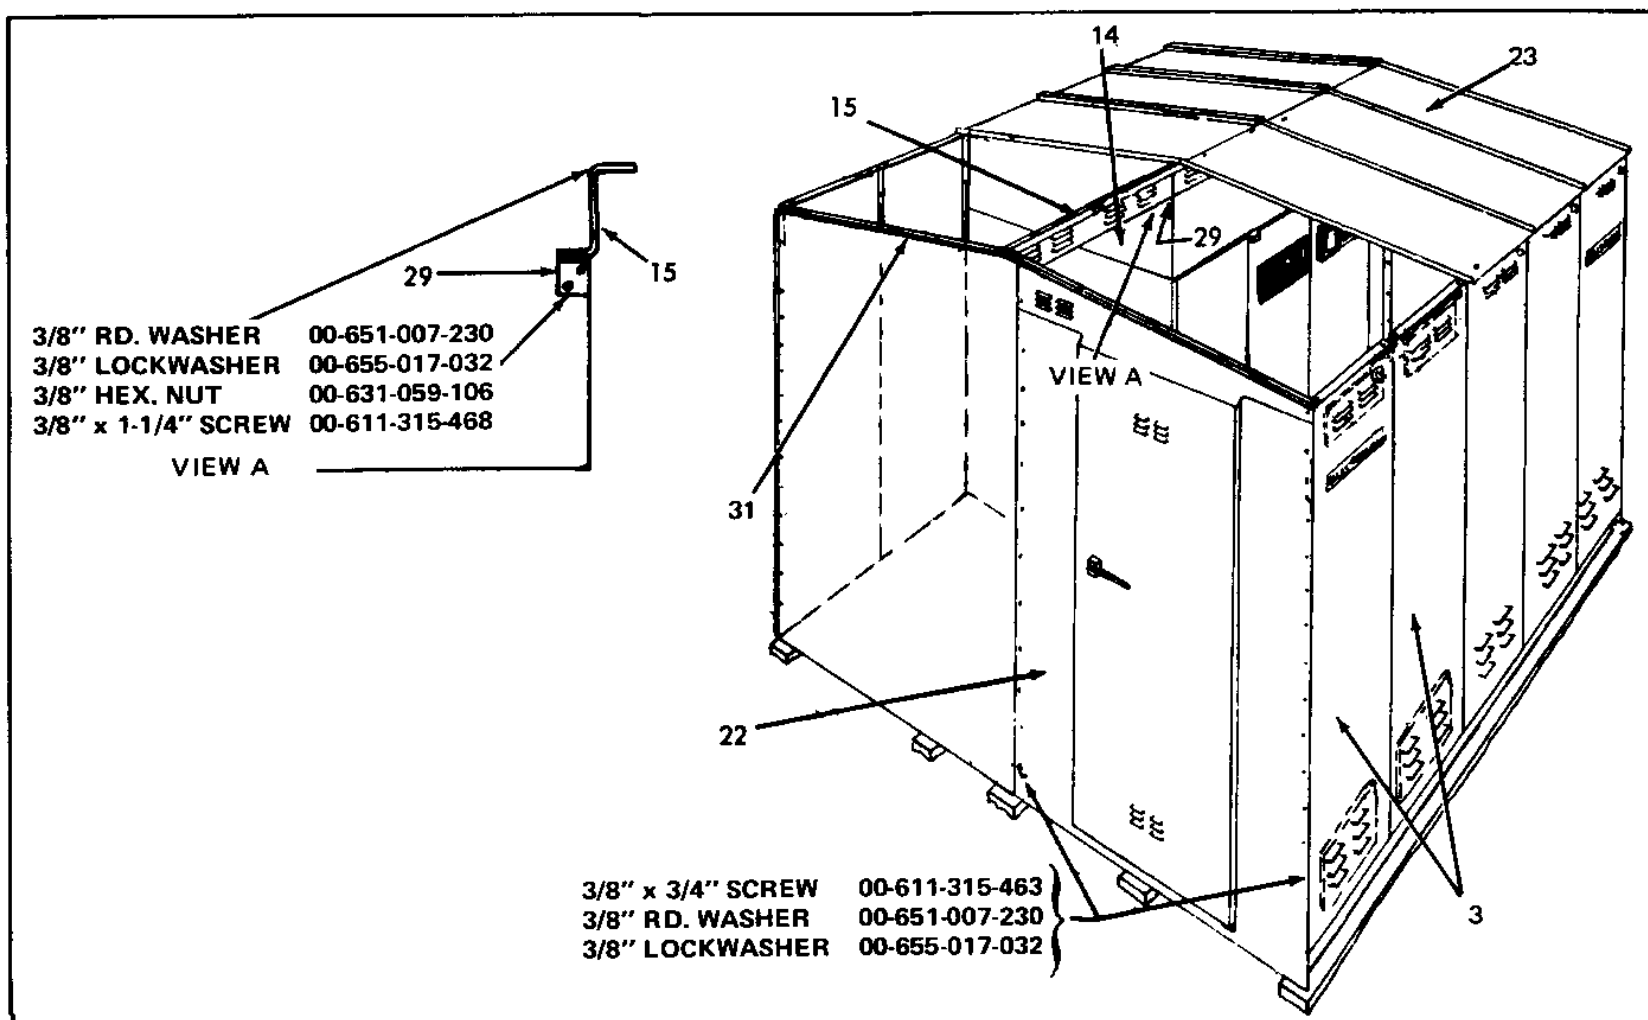
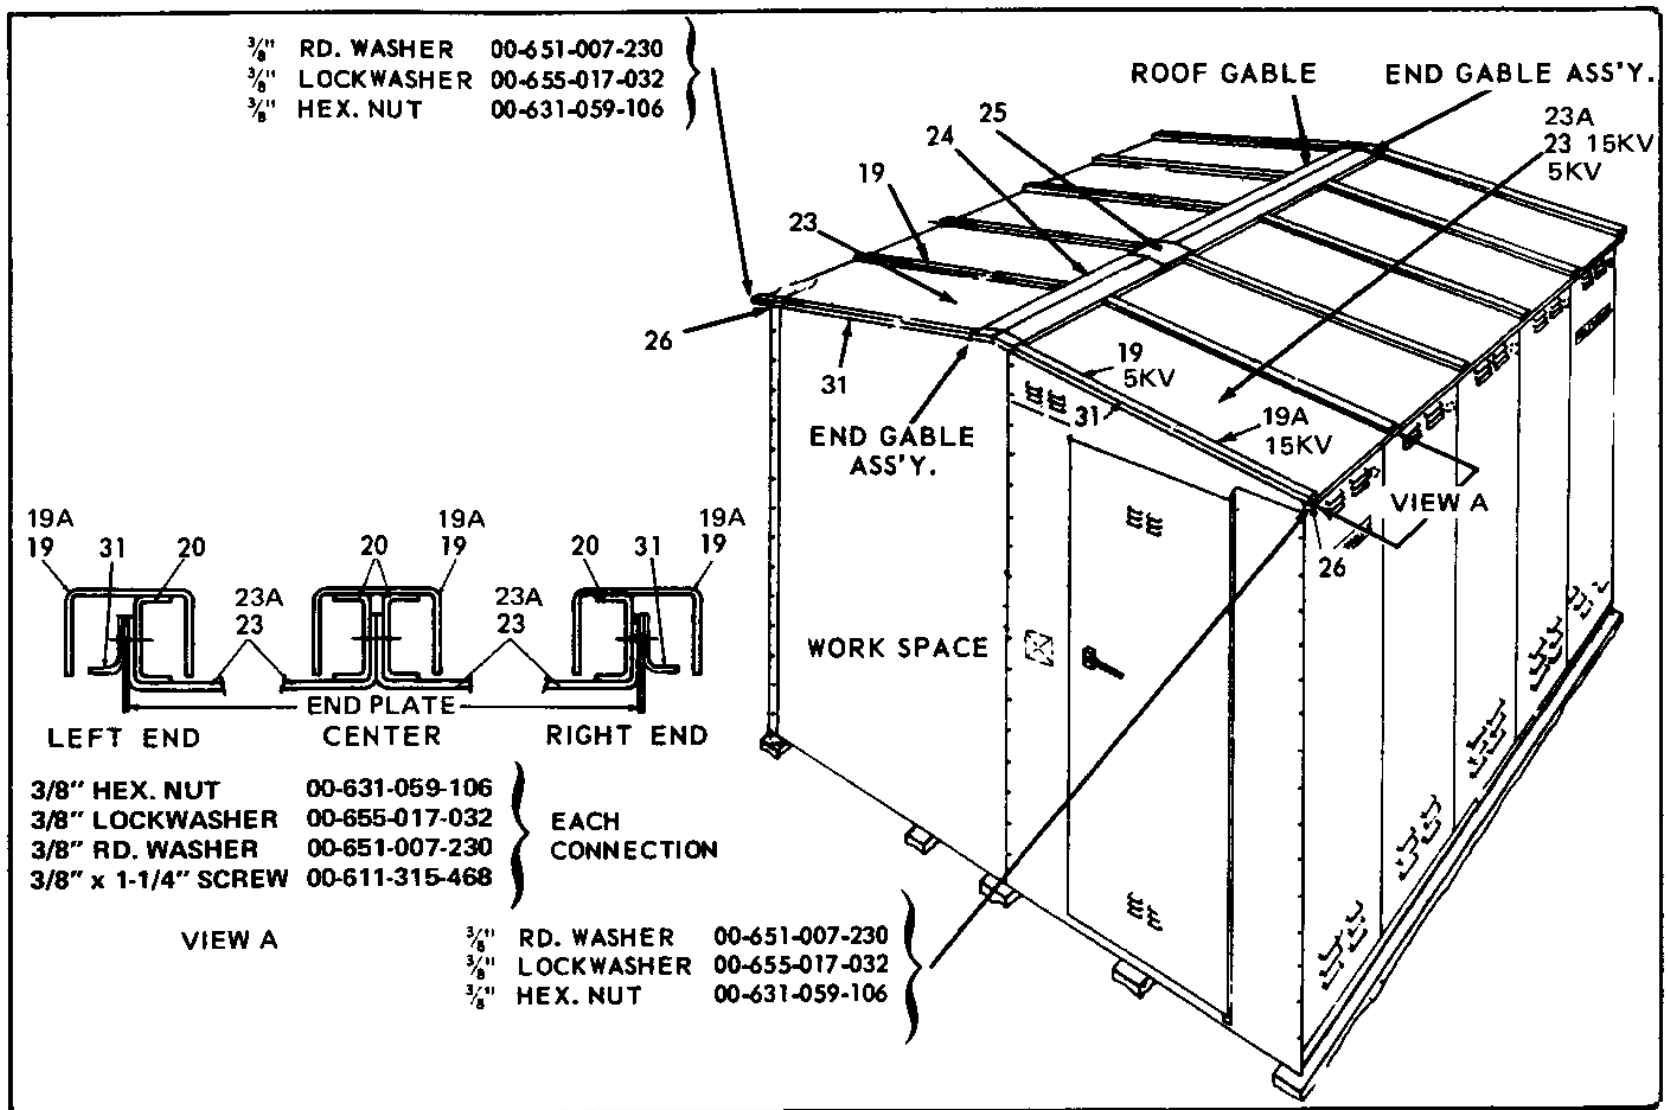

Figure 39. Door and Roof Support Installation (5 KV) — Single Aisle with Work Space
Figure 40. Roof Assembly (5 KV and 15 KV) – Single Aisle with Work Space
13. Apply 1/2-inch sealant tape to door frame assembly (22) and bolt it in place. Place tape so that one edge is on the vertical centerline of the mounting holes and the other edge is toward the point of weather exposure (Figure 39).
14. Remove trim angle (31) from end of cubicle and attach angle (29) to end of switchgear. Install roof support (15) from cubicle to end of work space. See view "A" for attaching support (15) to angle (29).
15. Put all roof decks (23) in place and bolt to the top of the end plate and to the roof support (15). Leave hardware finger tight until step 17 is complete.
16. Fasten roof decks (23) together using bracket (20). See view "A", Figure 40.
17. Mount trim angle (31). Tighten bolts.
14. Remove angle (31) from L.H. end of cubicle (see Figure 40). Attach angle (29) to end of switchgear, Figure 39. Install roof supports (15) from cubicle across beam (14) to end of work space. See view "A" for attaching support (15) to angle (29).
15. Put all roof decks (23A) in place and bolt to the top of the end plate and to the roof supports (15). Leave hardware finger tight until Step 17 is complete.
16. Mount trim angle (31).
17. Fasten roof decks (23) together using brackets (20). See view "A". Figure 40. Tighten bolts.